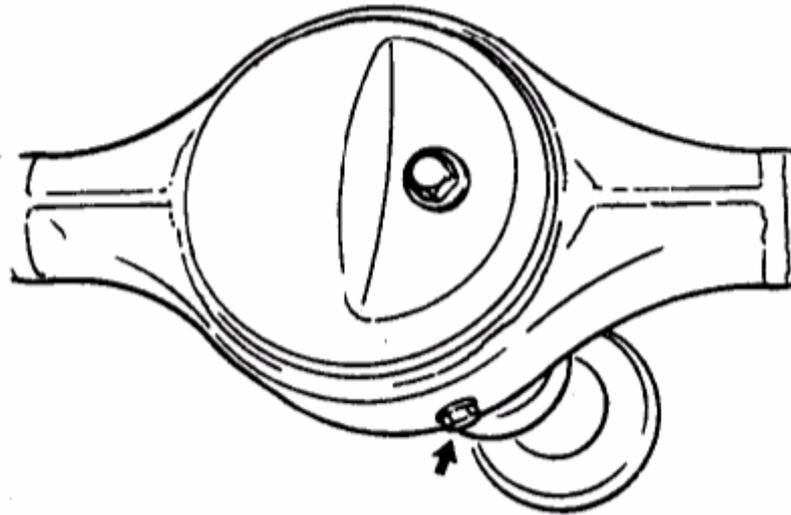

FIG 13-2
(3) Remove oil drain plug on the bottom of rear axle housing then drain grease into vessel. (FIG.13-2)